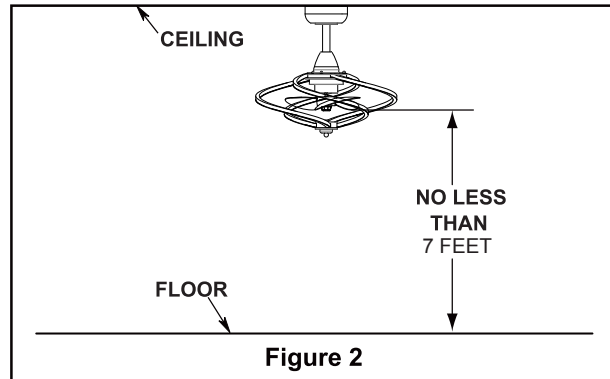
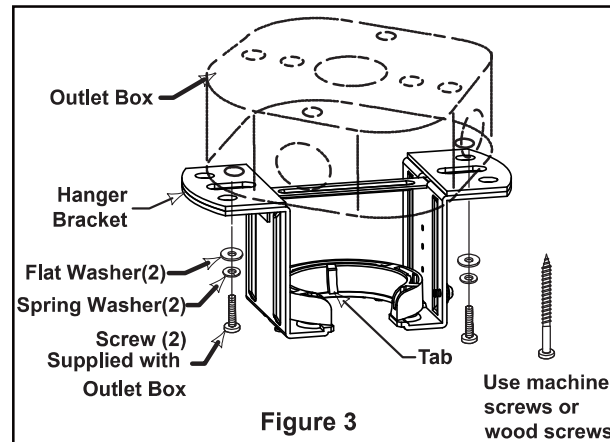

Figure 2
Figure 3
Your new ceiling fan will require a grounded electrical supply line of 120 volts AC, 60 Hz, 15 Amp Circuit. Electrical code requires use of a fan-rated outlet box to support the extra weight and motion associated with a ceiling fan. A fan-rated box will be labeled as such and typically supports up to a 70lbs ceiling fan. Fan-Rated Outlet Boxes vary in ratings and design. Ensure the ratings of your ceiling fan outlet box meet the requirements for the ceiling fan being installed. Figure 1, Figure 2 and Figure 3 depicts different structural configurations that may be used for mounting the outlet box.
Deep-profile use (Figure 2)
Brace Use (Figure 3):
- ☐ Remove the hairpin clip and clevis pin from the bottom of the downrod. Keep the pin and clip for reinstallation in Step 4. (Figure 2)
- ☐ Loosen the two set screws in the motor assembly's downrod support. Route the motor plug wire, and light plug wire through the downrod. (Figure 3)
Ensure the fan is hung with at least 7 feet of clearance from the floor to the ceiling fan. (Figure 2)
Use the screws and washers provided with the outlet box to securely fasten the hanger bracket. (See Figure 3)
- 1. Slide the receiver into the hanger bracket with the flat side up towards the ceiling, as shown in figure 2.
- 2. Use the twist - lock mechanism to secure the screw cover in place. (See Figure 2)
- ❑ Restore electrical power to the outlet box by turning the electricity on at the main fuse box. (Figure 2)
- ❑ To make fan operational, install two 1.5V AAA batteries. (Battery not included (If not used for long periods of time, remove battery to prevent damage to transmitter). Store the remote away from excessive heat or humidity. (Figure 3)